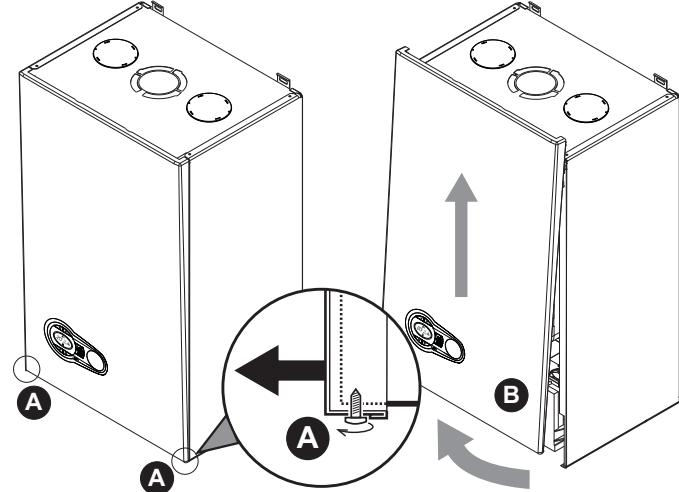

fig. 24 - Front panel opening
- Partially undo the screws **A** (see fig. 24).